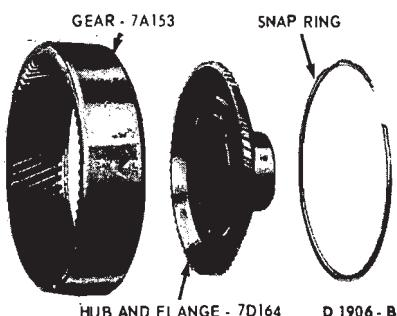

FIG. 58—Output Shaft Hub and Ring Gear
1. Remove the hub retaining snap ring (Fig. 58) from the ring gear.